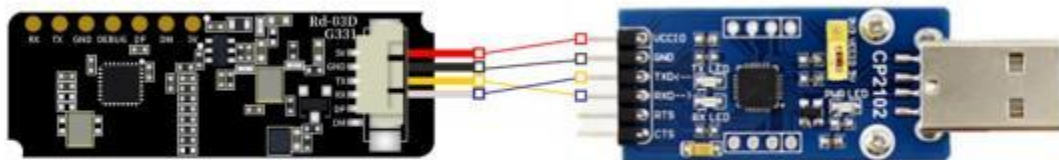

Figure 4- 1 Rd-03D_V2 module and serial port tool connection
Step 1: Use the connection line to connect the Rd-03D_V2 module and the serial port tool, the connection method is shown in Figure 4- 1, through the serial port tool to connect the module and the upper computer;